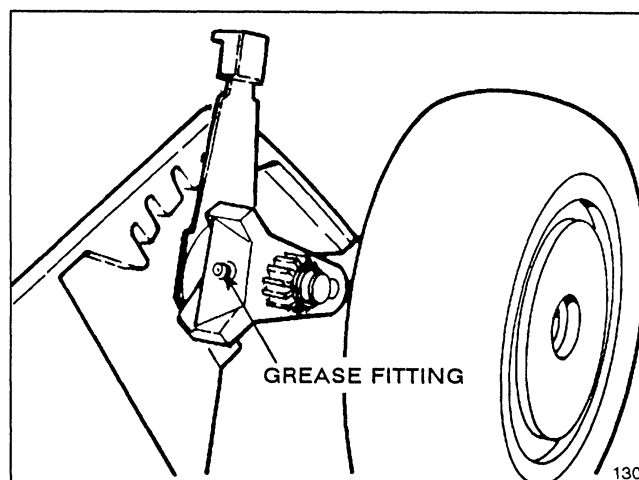

Figure 14
2. GREASE FRONT AXLE PIVOTS (Fig. 14) (model 16785 only)—Adjust height-of-cut to 3-inch setting. Wipe grease fitting with a clean rag. Install grease gun onto fitting and gently apply 2 or 3 pumps of #2 Multi-Purpose Lithium Base Grease. Excess pressure may damage seals.